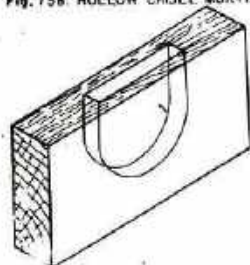

Fig. 739. CHAIN MORTISE
2. The chain mortiser Fig. 739.
The chain mortiser and slot boring machines are the ones most frequently used for cutting and boring mortises and holes. The body of a chain mortise is similar to the hollow-chisel mortiser. This mortiser has an endless chain with saw shaped teeth, Fig.746, which revolves around a steel bar guide with a sprocket wheel on its lower end, Fig.747. The sprocket wheel runs on ball-bearings and must be very well lubricated to make sure it does not over-heat. The chain mortiser is the fastest mortising machine and is used principally in door and window industries. It makes a mortise with a rounded bottom, Fig.739. The size or width of the mortise is limited by the dimension of the chain and the chain guide. They are available from 6 mm ($\frac{1}{4}$ inch) to 40 mm ($1\frac{1}{2}$ inches approx.) in width. The chain must be tightened with a tightening device right above the chain guide, but care has to be taken that the chain is not tightened too much. The following basic rules must be observed when working on a chain mortiser.